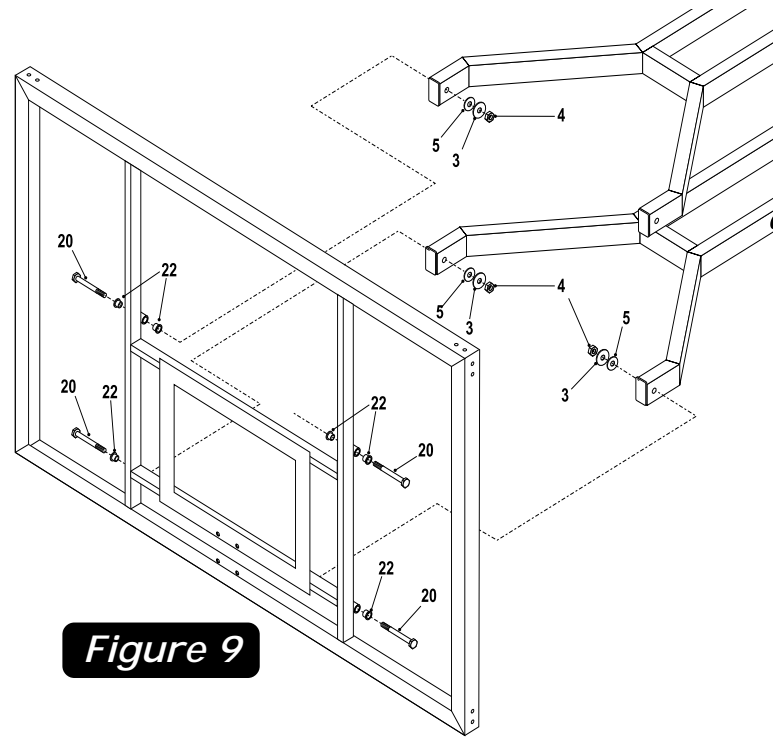

Figure 9
- With at least three capable people, raise the backboard assembly up and have the fourth attach Lower Board Arms to lower mounting tubes on backboard using two bolts (#20), four Board Bushings (#22) (shipped already installed), two plastic washers (#5), two washers (#3) and two hex nuts (#4). See Figure 9. Do NOT over tighten these bolts. This is a pivot point. Snug is tight enough.
- Attach Upper Board Arms to upper mounting tubes on backboard using two bolts (#20), four Board Bushings (#22) (shipped already installed), two plastic washers (#5), two washers (#3) and two hex nuts (#4). See Figure 9. Do NOT over tighten these bolts. This is a pivot point. Snug is tight enough.